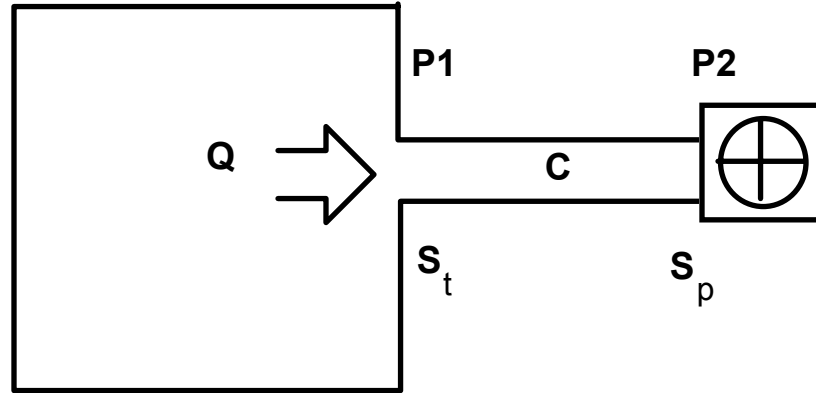

Figure 3.11: A simple vacuum system.
3.12 For the simple vacuum system pictured in figure 3.11, calculate the pumping speed at the chamber if the pump has a speed of 200 L/s, the pressure at the vacuum pump is 5×10^{-6} , and the conductance element is a tube 30" long by 2" in diameter.